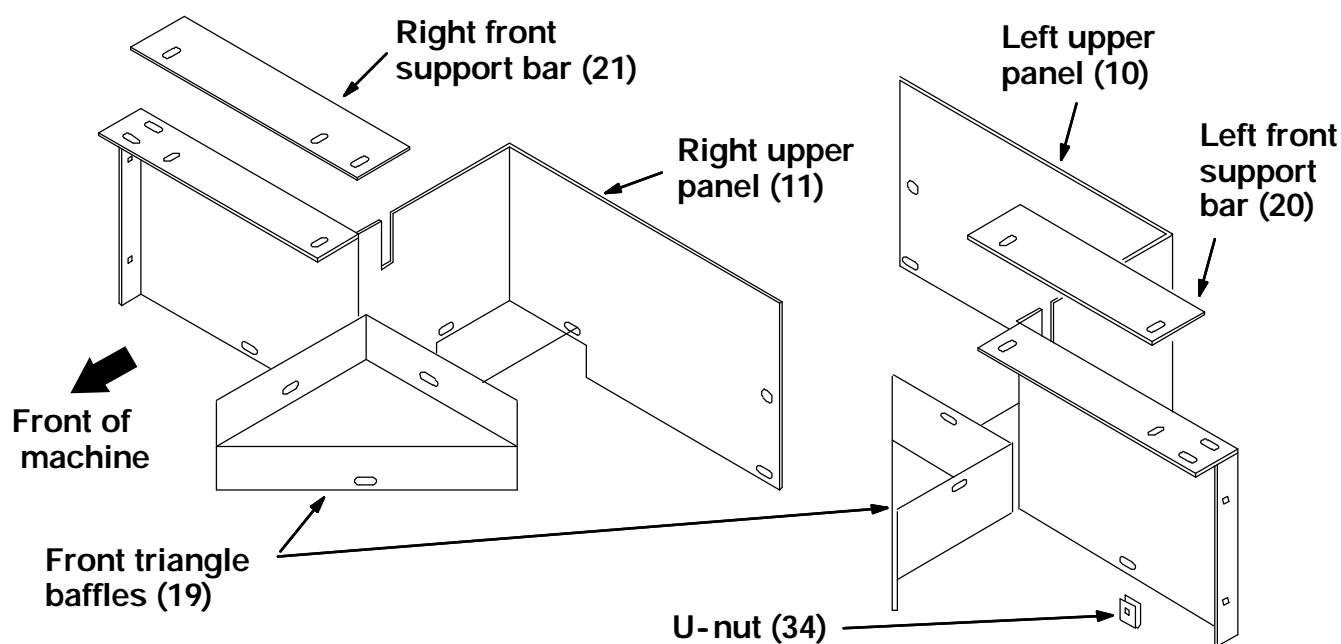

FIG. 3 - Assemble Upper Panels
(Refer to FIG. 3 and 4)
1. Assemble the left (10) and right (11) upper panels together. (Refer to Fig. 3)
2. Assemble the two front triangle baffles (19) to the upper panel assembly. (Refer to Fig. 3)
3. Assemble the right front support bar (21) to the upper panel assembly. (Refer to Fig. 3)
4. Assemble the left front support bar (20) to the upper panel assembly. (Refer to Fig. 3)